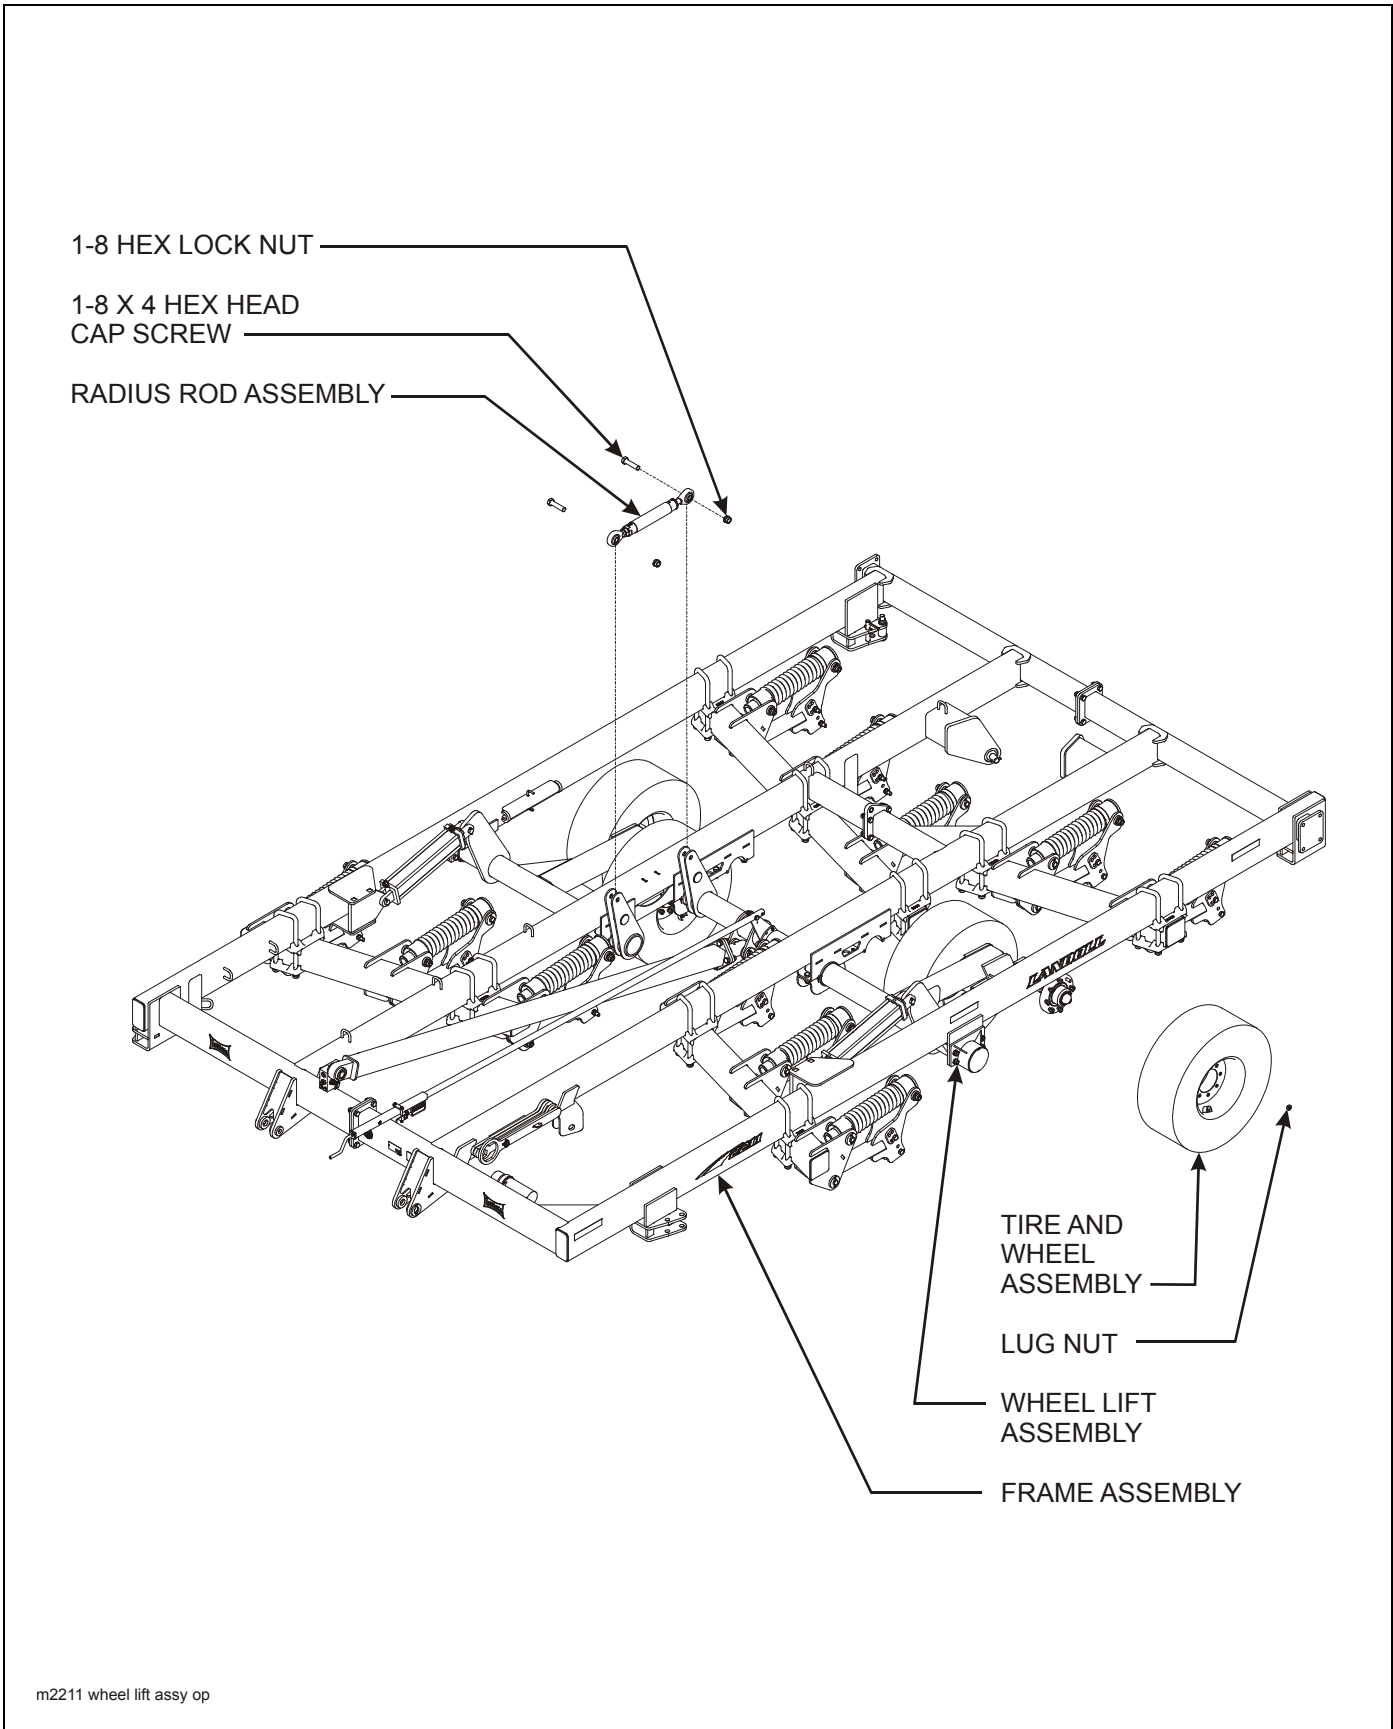

Figure 3-5: Wheel Lift Installation
2. Install radius rod assembly to the frame assembly using 1-8 x 4 hex head cap screws and hex lock nuts. Adjust the radius rod to fit with the cylinders fully retracted (**See Figure 3-5.**)